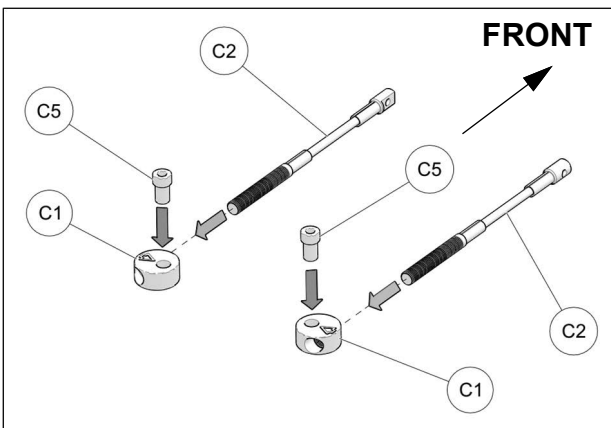

Fig. 26
12. Assemble steering limiter cables (C2), aluminum disks (C1) and step spacers (C5) together as shown on Fig. 26